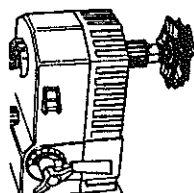
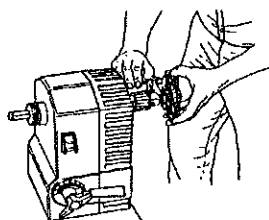

Fig.H-18
Fig.H-17
4. Install the Flutter Sheet Sander in the drill chuck and tighten with the chuck key. See Fig.H-17 and Fig.H-18. Use Speed Settings 5- 5-1/2.